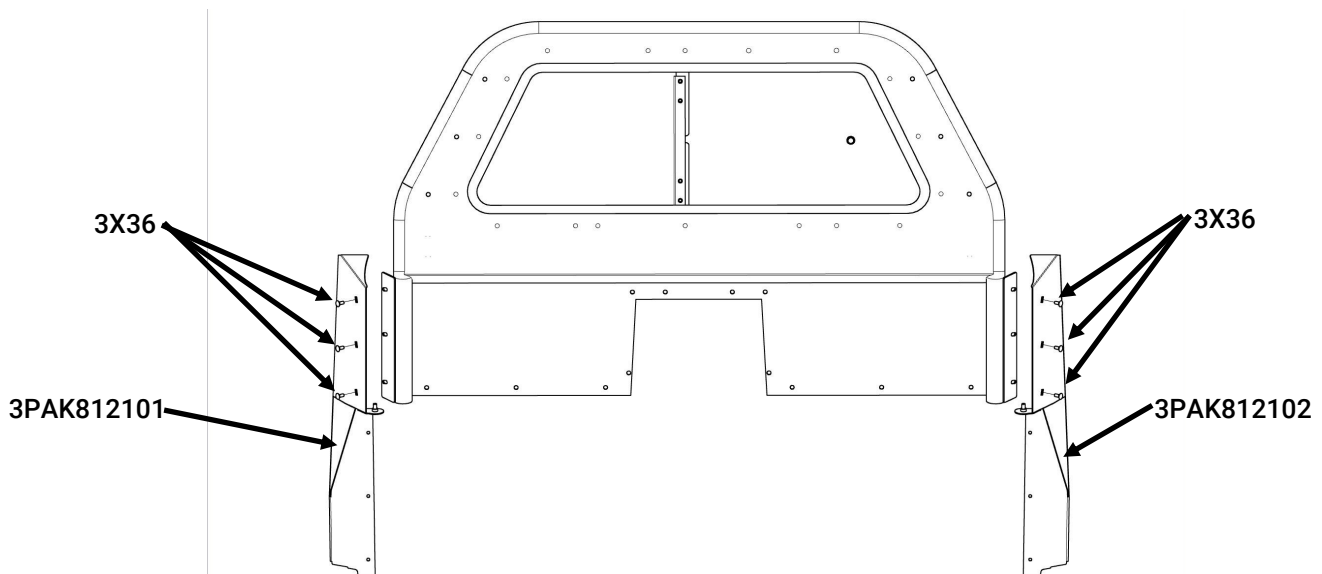

Fig. 3
- A. Prepare (3) carriage bolts [3X36] and (3) whiz nuts [3X16Z] on each side of the vehicle.
- C. Align the three uppermost holes in each of the mounting plates with the respective slots on the partition. Loosely secure in place with the fasteners prepared in step A. Install the fasteners such that the smooth head of the carriage bolt is facing towards the outside of the vehicle (Figure 3). The fasteners will be tightened in a later section.